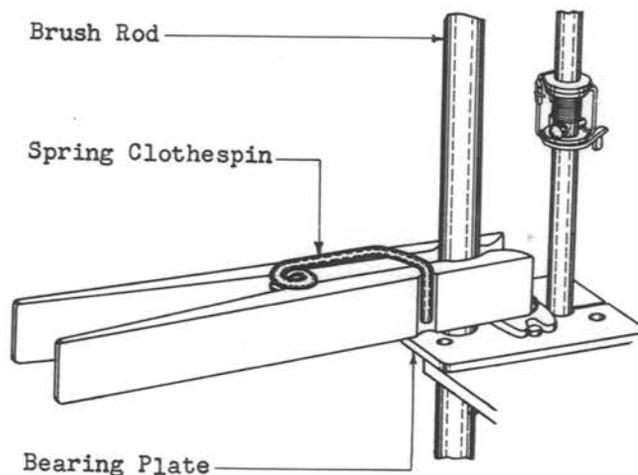

Fig. 13 - Placing Spring Clothespin on Brush Rod
Lift the brush rod away from the rack with the other hand. The rod now has no means of support, so it will be necessary to hold it in place with a spring clothespin just above a bearing plate as shown in Fig. 13. Lift the rack out from behind the clutch.
- (1) Before checking the vertical alignment, uncouple the rack from the brush rod as covered in 3.005 and raise the brush rod to a point near the upper limit of its travel. Hold the brush rod in this position by means of the spring clothspin as shown in Fig. 13, preferably between banks Nos. 2 and 3.
- (2) If any part of the requirement is not met, loosen the clutch mounting screw as outlined in 3.006 and shift the clutch as required. If the proper clearance between clutches cannot be obtained by shifting one clutch it may be due to failure of one or both of the adjacent clutches meeting this requirement. In this case loosen the clutch mounting screws of these clutches and shift them until the requirement